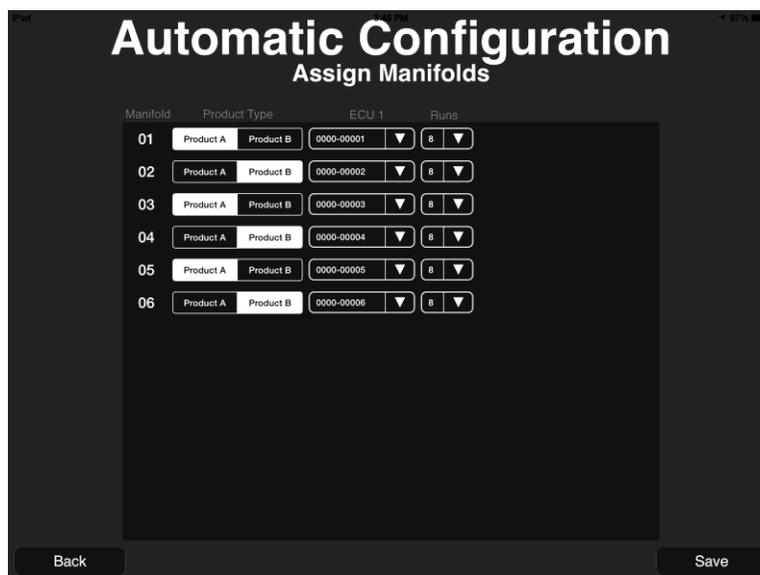

Figure 31: Automatic Configuration - Assign Manifolds screen (nonstandard set-up)
10. Tap **Save** to continue to the Automatic Configuration – Assign Manifolds screen, shown in Figure 31.